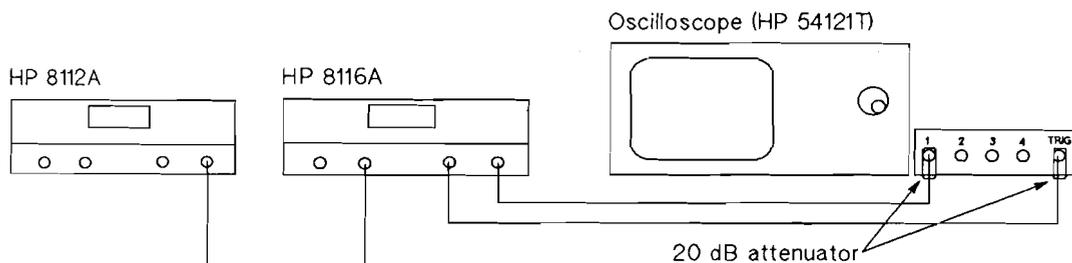

Figure 9-4. Amplitude Modulator Adjustment - Equipment Set-up.
1. Connect the function generator, HP 8116A and spectrum analyzer as shown in Figure 9-4.